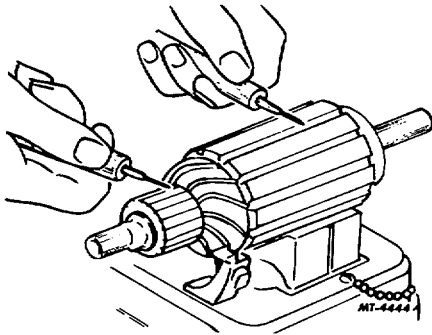

Fig. 12 Testing Armature for Grounds
- c. Grounds in the armature can be found using a test lamp and prods, see Fig. 12 If the lamp lights when one prod is positioned on the commutator and the other prod on the armature core or shaft the armature is grounded. If the commutator is worn, dirty or out-of-round or the insulation is high, the commutator should be turned down and under cut.